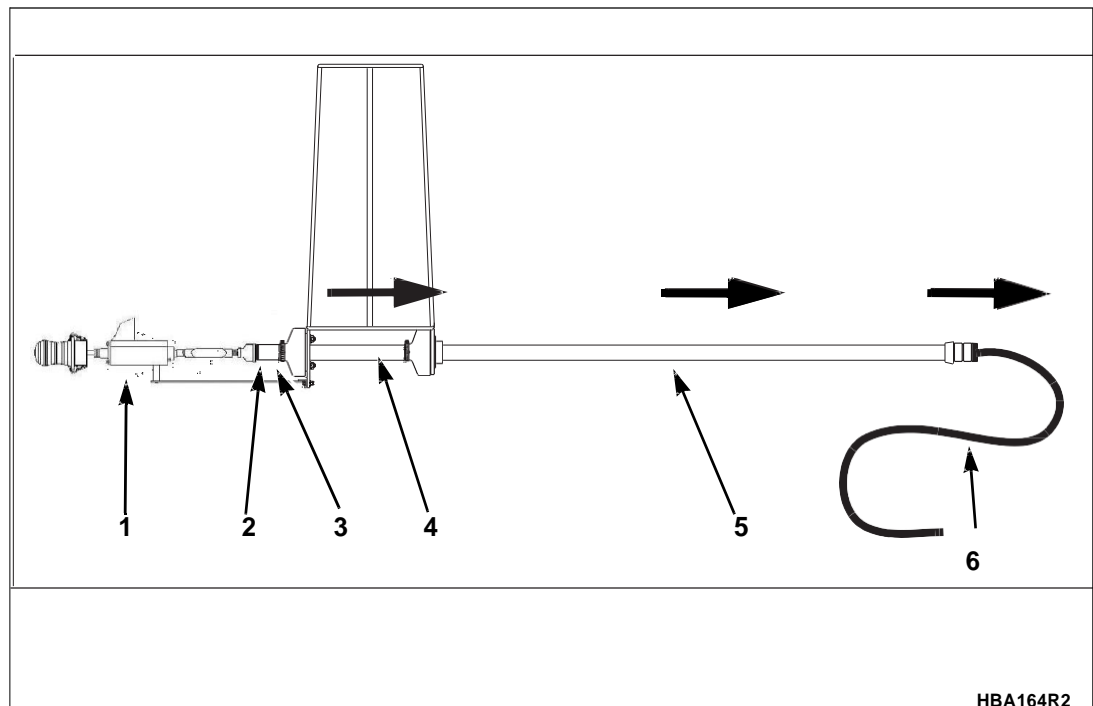

Figure 16. Feeding the Electrical Cable
3. Push the wire cable through the basket support pipe, down through the pole, and out the bottom, see Figure 16.
4. Place anti-locking compound onto the threads at the top of the basket support pipe, see Figure 16. Tighten until secure and at least 2/3 of the threads are engaged.